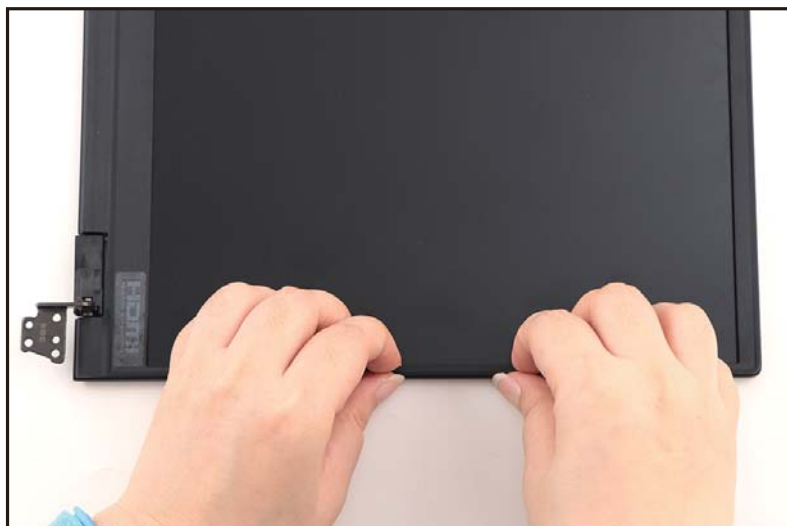

Figure 1-41. LCD Bezel Removal
2. Continue prying along the right side of the bezel (Figure 1-41).